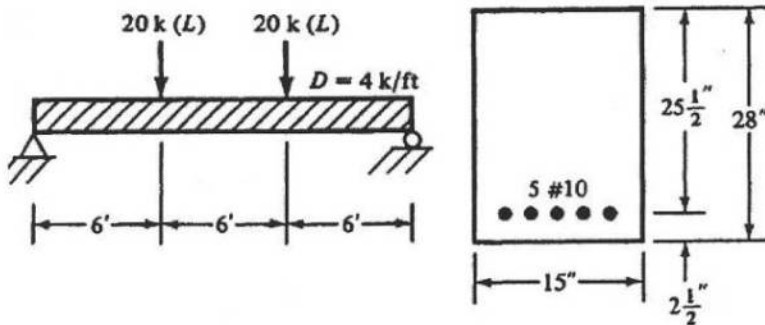

Fig 4
4. Design the beam (Fig 4) for shear with a 4 k/ft DL over entire span and two concentrated 20 kip LL. Also show the stirrup spacing over the longitudinal half section. Use #3 \sqcup stirrups. Given, $f_c = 4000$ psi, $f_y = 60000$ psi. (10)